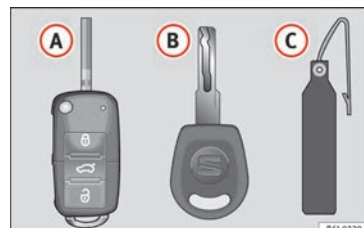

Fig. 49 Set of keys.
- one remote control key » **Fig. 49** **A** with folding key bit,